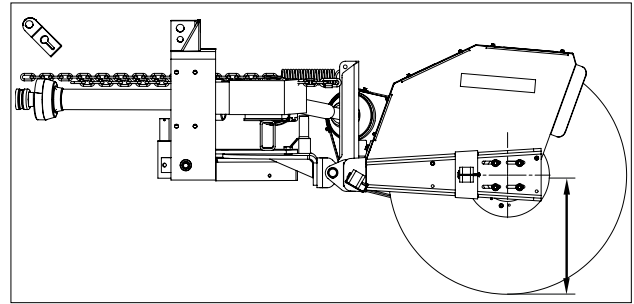

figure 4
4. At each end of the brush head, measure from the center of the core shaft to the ground (figure 4).